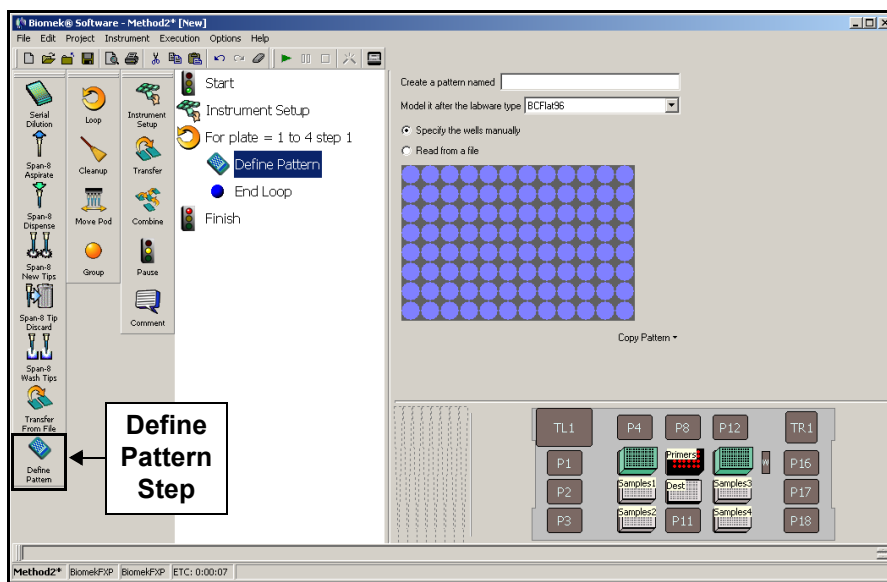

Figure 9-3. Define Pattern inserted inside Loop
2. Insert a **Define Pattern** step inside the Loop step (Figure 9-3).